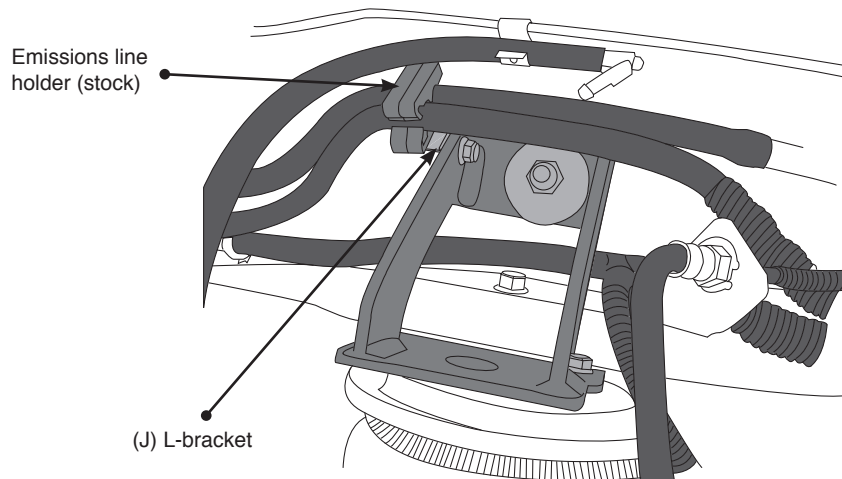

fig. 8
6. Cap the brace/upper bracket carriage bolts (P) with a 3/8" flat washer (W) and 3/8" nyloc nut (V) and tighten both securely on both sides.
7. With the spacers (F) on the upper brackets tight to the bottom of the frame and the braces tight to the upper bracket, tighten the 1/2 or 3/4" hardware previously installed, that hold the braces to the frame. Tighten both sides securely.
8. If so equipped with the emissions line previously loosened from the frame, insert the line holder post into the L-bracket (J) attached to the back leg of the upper left brace (B) (Fig. 8). It may be necessary to move the line holder post forward or back on the lines to line up correctly with the L-bracket hole. Reattach any line holders removed forward or behind the axle, if possible, that were removed to aid in positioning the upper bracket.